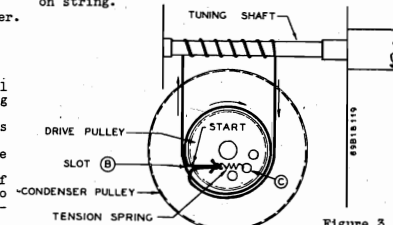

Figure 3
7. Route cord 7 turns around tuning shaft as shown in Fig. 3 and down to drive pulley.